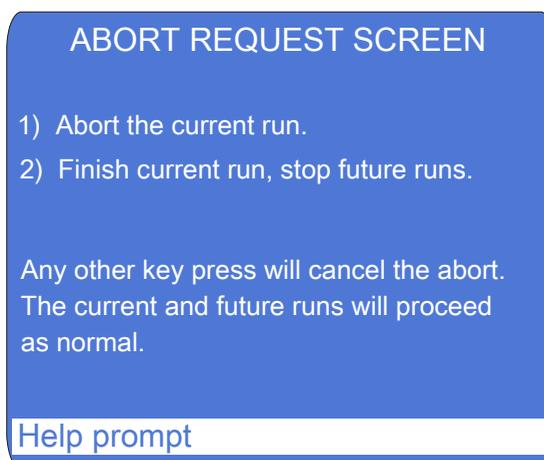

Figure 3-34. Abort Request Screen
To interrupt the current run when the Dionex ASE 350 is in Local mode, press the **Stop** button on the front panel. The **ABORT REQUEST** screen appears (see Figure 3-34).
- Press the **Stop** button on the Dionex ASE 350 front panel. The **ABORT REQUEST** screen appears (see Figure 3-34). Select the preferred option.